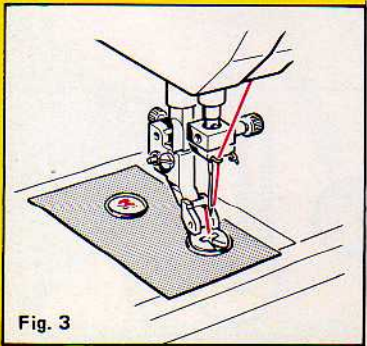

Fig. 3
**Note:** When attaching foot to presser bar, be sure to position top bar of foot in front of needle bar as shown in fig. 3.